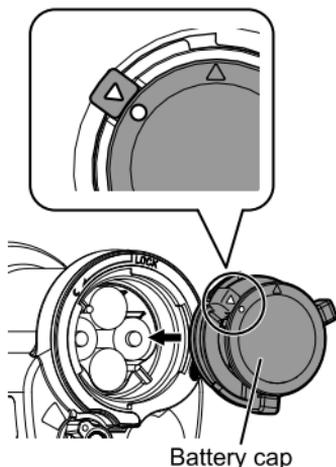

Fig.3
- 5 Verify that the [ ○ ] mark on the battery cap is lined up with the [ ▽ ] mark (Fig.3)
- 6 Align the battery cap with the [ ⊗ ] mark, and insert the battery cap into the strobe (Fig.3)